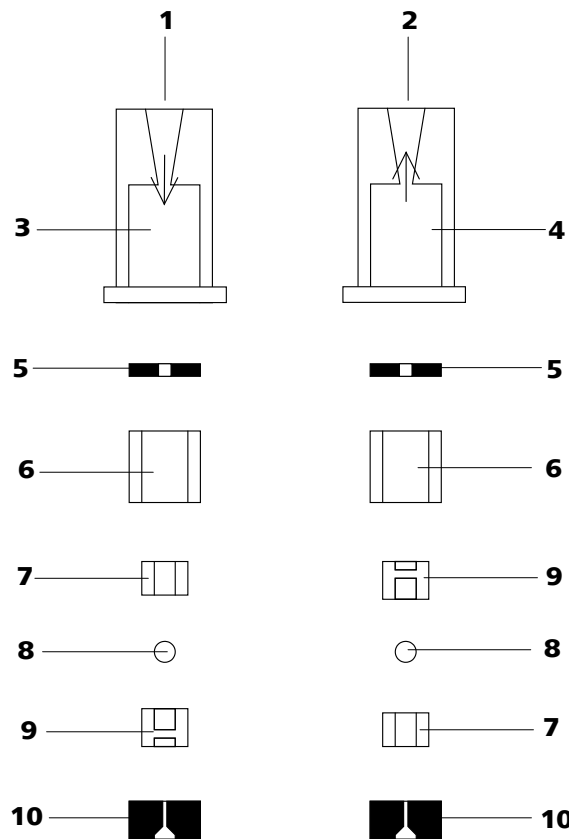

Figure 33 Components of the inlet valve and outlet valve
- The inlet valve and the outlet valve consist of the same, just differently arranged components (see Figure 33, page 49).
Reassemble valve components *according to figure 33, page 49*.
- Lay the other valve components above another in the correct sequence (*see Figure 33, page 49*).
If this is not the case, the valve has to be dismantled again and be assembled correctly (see *Figure 33, page 49*).